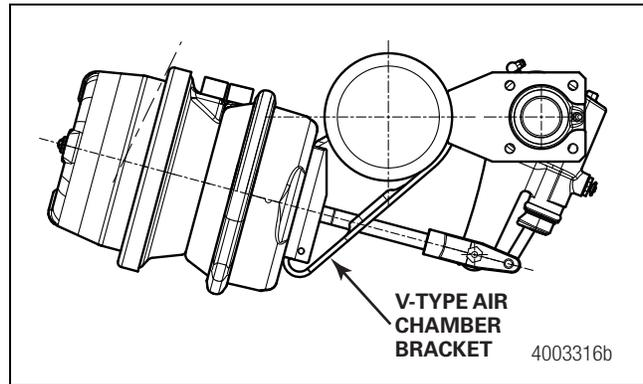

**Figure 11.14**
- Cams with heat-treated journals are used with bolt-on bushings. Figure 11.14.